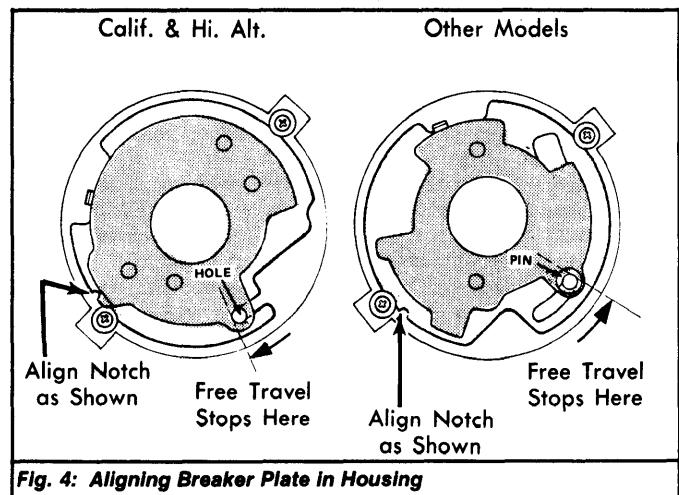

Fig. 4: Aligning Breaker Plate In Housing
4) Align breaker plate in distributor housing. See Fig. 4. Check that upper plate moves freely. Be sure diaphragm arm attachment hole or pin does not rotate past end of slot in lower plate.